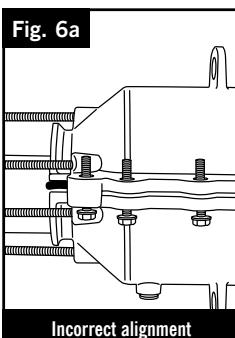

Fig. 6a
5) Place the other clamp shell on top of the leaking joint (use the lifting lug if required), align the BSP outlets to ensure that both are on the same side of the fitting (this is to ensure the seals are positioned correctly on both sides of the clamp); align the bolt holes on the clamps. (FIG 6a/6b)